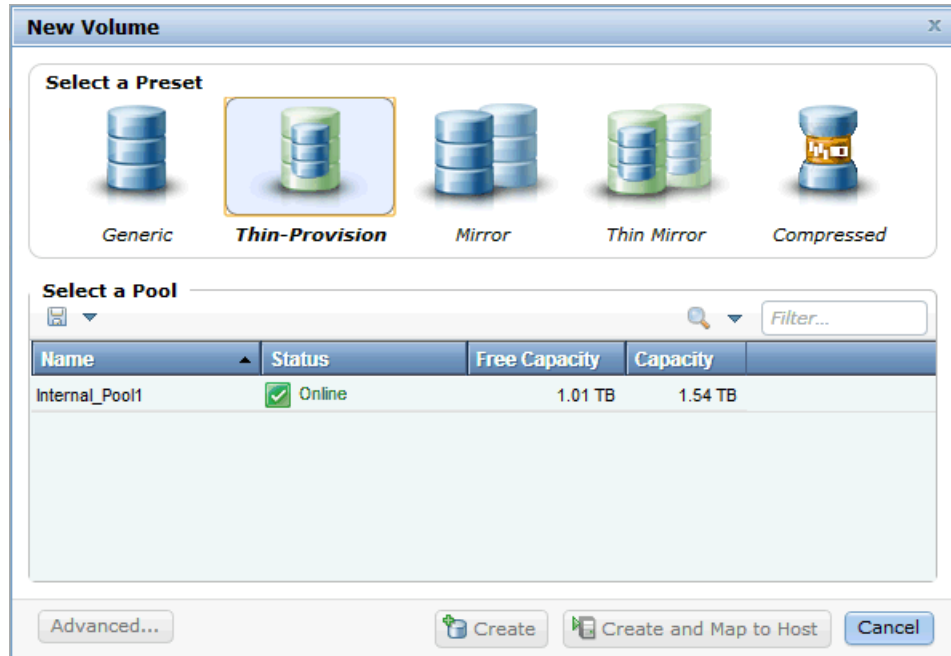

Figure 6-6 Create a thin-provisioned volume - select pool
1. From the New Volume window, select **Thin Provision** (Figure 6-6).